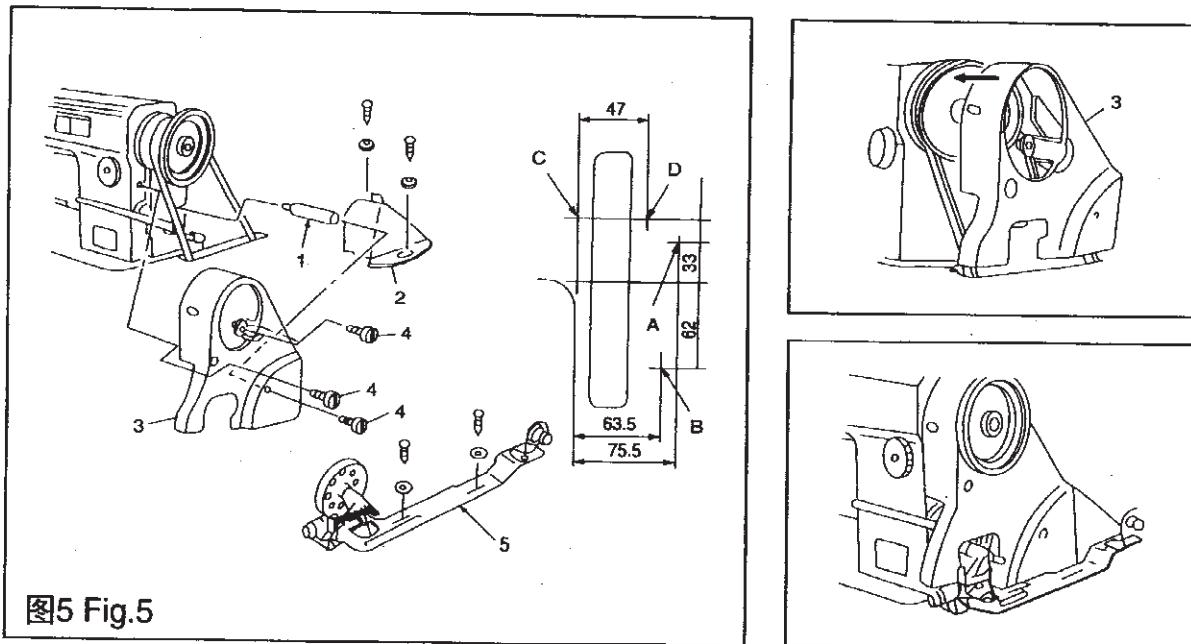

图5 Fig.5
安装好机头，套上皮带后就可以着手装绕线器。安装绕线器时应将绕线器 5(见图5)对准皮带的外边，并使绕线轮和皮带之间有一定的空隙。但在揿下绕线轮架时应能使绕线轮和皮带相互接触，上轮转动时，皮带能带动绕线轮一起转动。然后拧紧木螺钉将绕线器固定在台板上。
After fitting machine head and the belt, the thread winder can be fitted. In (Fig. 5) when fitting winder, the winder wheel 1 should face the outside of belt 2. Between winder wheel and belt should have a certain clearance. If push down winder wheel stand 3, the winder wheel should touch the belt. And when balance wheel running, the belt can make the winder wheel run together, then tighten screw 4 to set the thread winder on the table.
(5) 皮带罩和绕器的安装(图5)
(5) Installing the belt cover and bobbin winder (Fig.5)